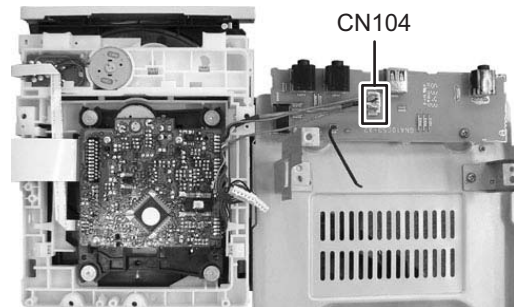

Fig.13
- (2) Turnover the CD mechanism, disconnect the connector wire from CD mechanism assembly connected to connector **CN104** of the Jack board assembly. (See Fig.13)
- (5) Remove the feed gear and take out the feed motor. (See Fig.13)
When attaching the feed motor, the wire has to through the part **t** of the traverse mechanism assembly. (See Fig.13)